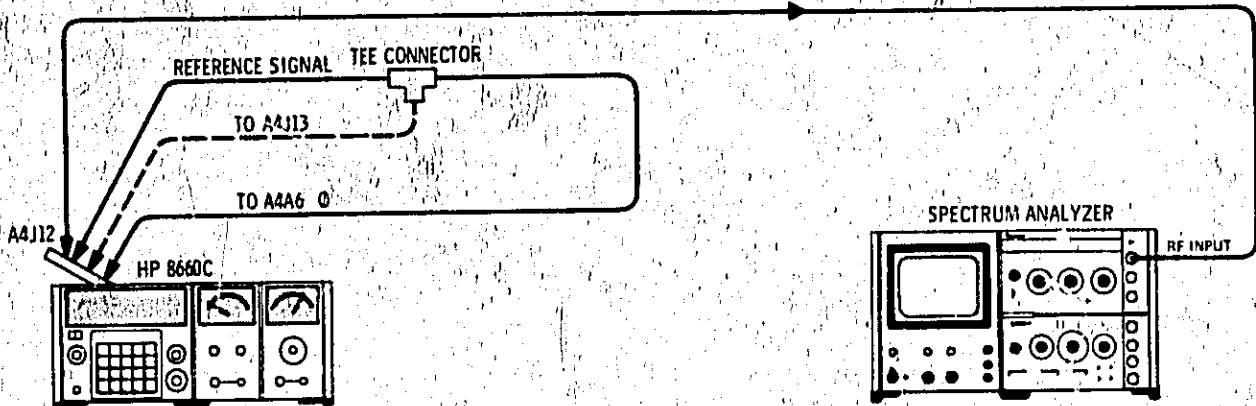

Figure 5-13. 10 MHz Trap Adjustment Test Setup
5. 10 MHz Trap Adjustment (see Figure 5-13).